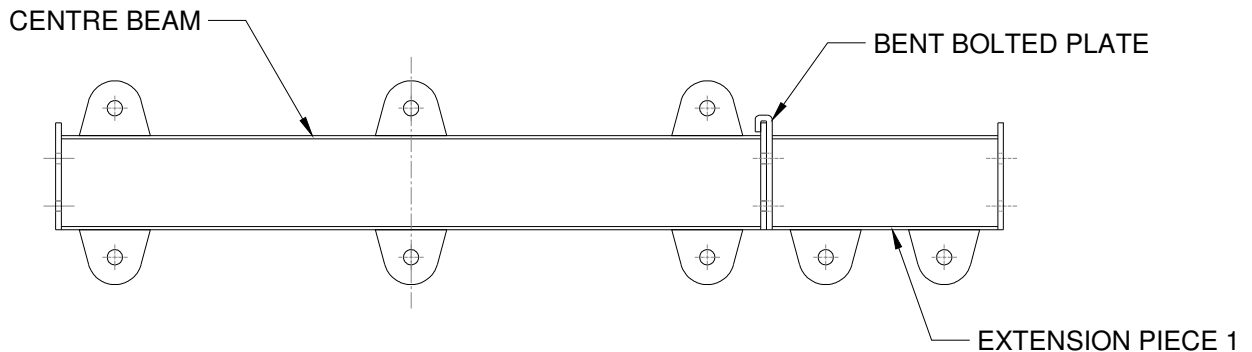
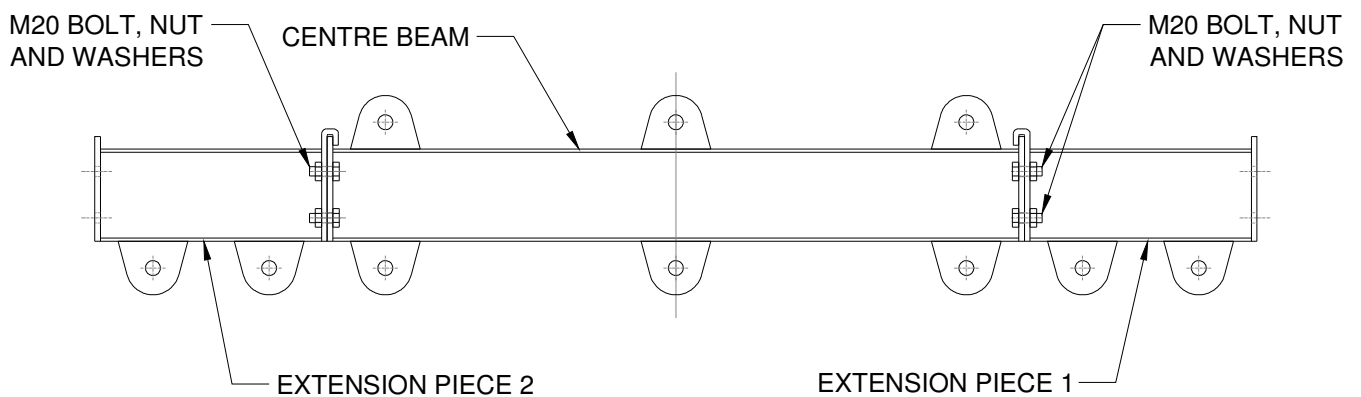

Figure 1 – Extension Piece 1 placed in position
Figure 2 – Extension Pieces 1 and 2 secured to Centre Beam
2. Take the first extension piece and slide into place such that the bolting plate of the centre beam is within the bent bolted plate of the extension piece – see Figure 1.
3. Take four (4) of the M20 bolts and nuts as well as eight (8) washers and fasten the extension piece to the centre beam. All bolts are to be tightened IAW the manufacturers specifications.
4. Take the second extension piece and slide into place as per Step 2. Fasten the extension piece as per Step 3 – see Figure 2.